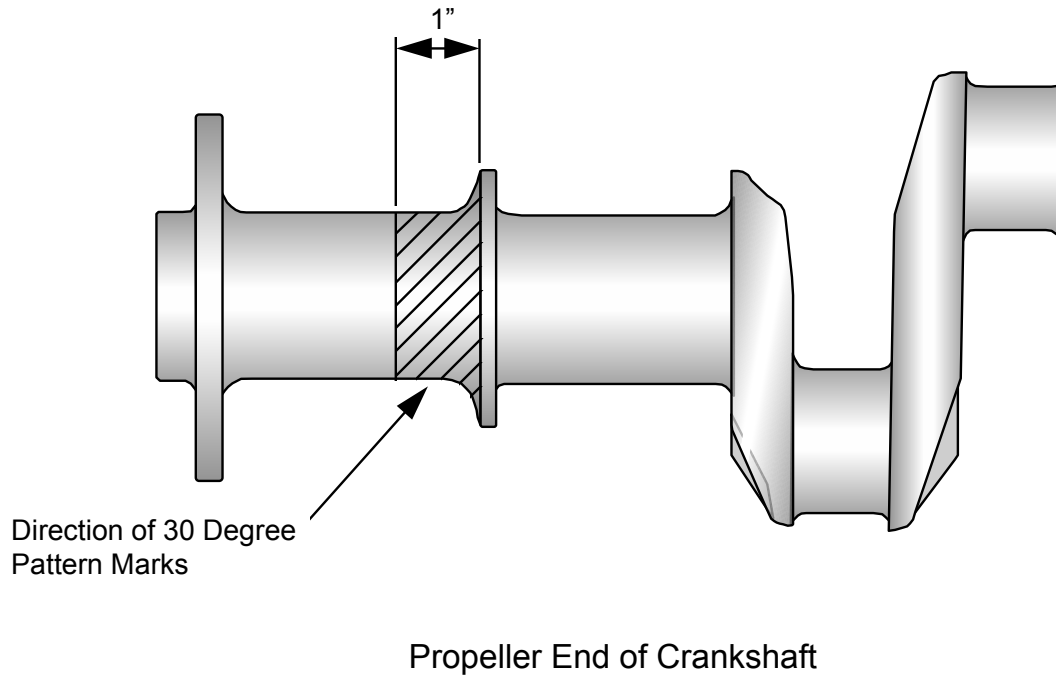

Figure 21-6
3. Remove any plating in the one inch area shown in Figure 21-6, “Helix Pattern Application.” Remove plating by working a piece of very fine emery cloth back and forth around the shaft. This should blend the finish uniformly without leaving any lines (scratches).
1. See Figure 21-6, “Helix Pattern Application.” Apply helix using a strip of 180 grit emery cloth approximately one half inch wide. Do approximately one quarter of the surface indicated at a time, stroking the cloth outward toward the propeller flange in the direction of rotation (CCW) towards you using maximum hand pressure. Reverse direction for left hand rotating engines. This should result in a 30° pattern similar to that illustrated in Figure 21-6, “Helix Pattern Application.” After doing the first portion rotate crankshaft by hand to make next portion available. Apply the same pattern again and continue completely around the crankshaft in this manner.